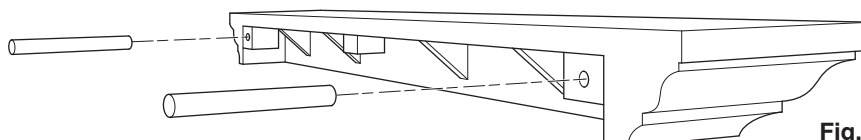

Fig. 50
- Only place lightweight ornaments, eg. vases, small clocks, candlesticks towards the back of the shelf and never on the overhang (Fig. 50).
5. Glue the dowels (provided) into the holes in the rear of the shelf and closed header and offer the shelf (or closed header) up into position, marking the location of the dowels on the wall. Drill 7mm diameter holes to accept the dowels. Fully fill the dowel holes in the wall with glue and position the shelf (or closed header) in its final location, gluing it to the rest of the fireplace and wall (Fig. 50 - previous page).